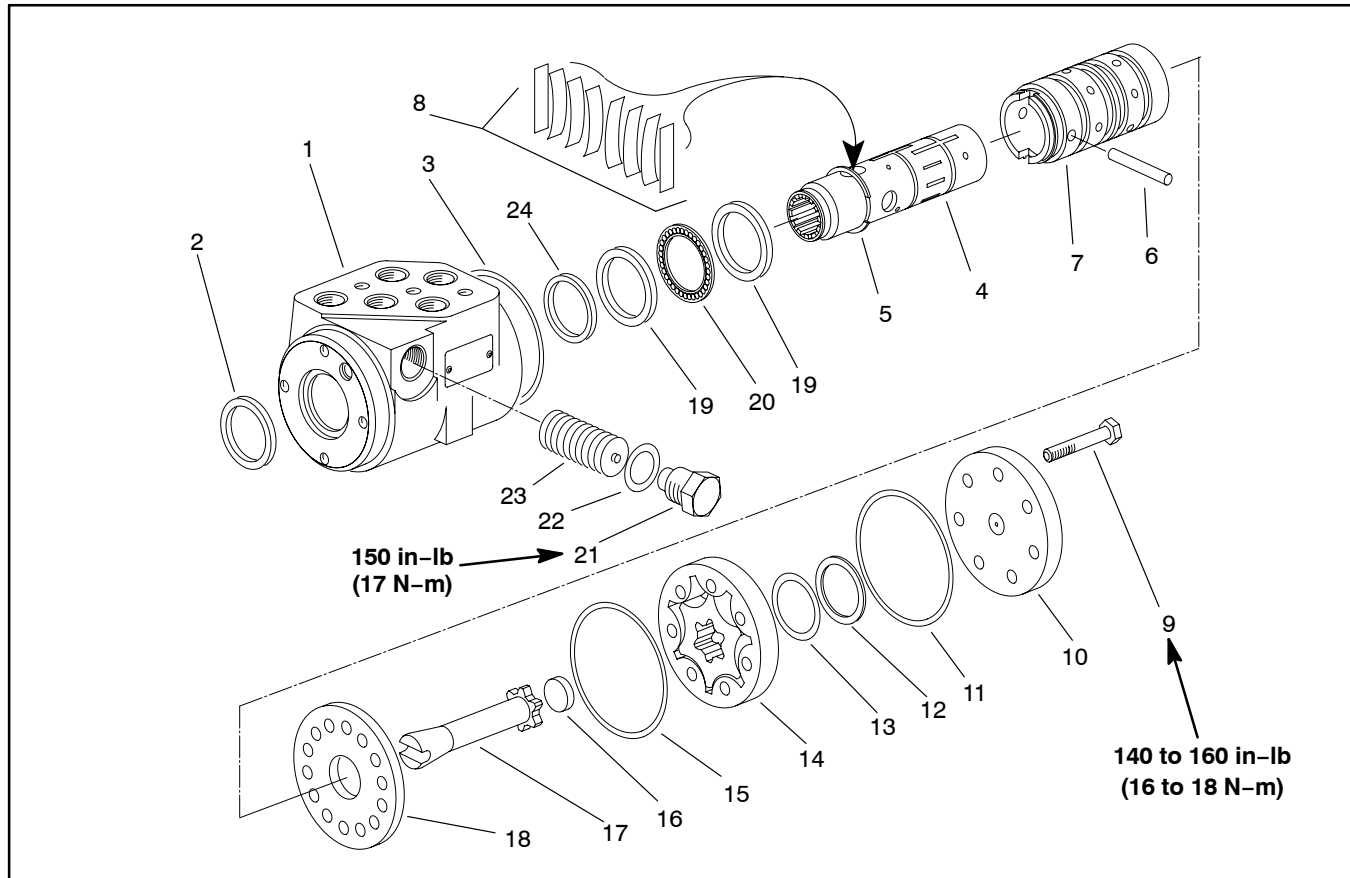

Figure 72
Disassembly (Fig. 72)
2. Remove end cap, geroter, spacer, geroter drive, wear plate, seal ring and O-rings from housing (Fig. 72).
5. Remove the thrust bearing and bearing races (2).
Assembly (Fig. 72)